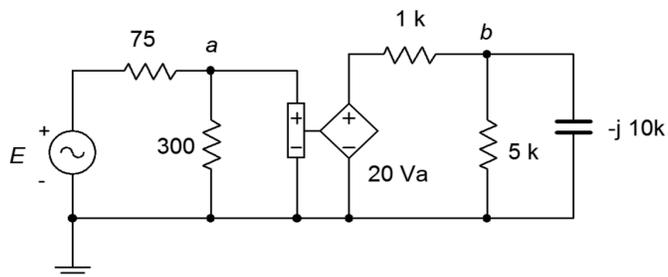

Figure 5.19
37. In the circuit of Figure 5.19, determine the current flowing into the 1 k resistor if the source  $E = 6\angle 0^\circ$ .
38. In the circuit of Figure 5.19, determine  $v_b$  if the source  $E = 12\angle-90^\circ$ .